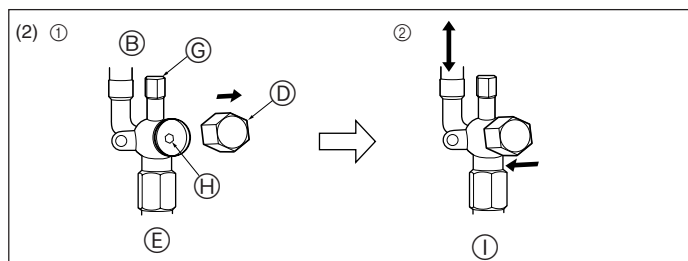

Fig. 4-6
(2) Liquid side of RP2.5-6 and Gas/Liquid side of RP1.6, 2 (Fig. 4-6)
- ① Valve
- ② Unit side
- ③ Handle
- ④ Cap
- ⑤ Local pipe side
- ⑥ Open position side
- ⑦ Service port
- ⑧ Wrench hole